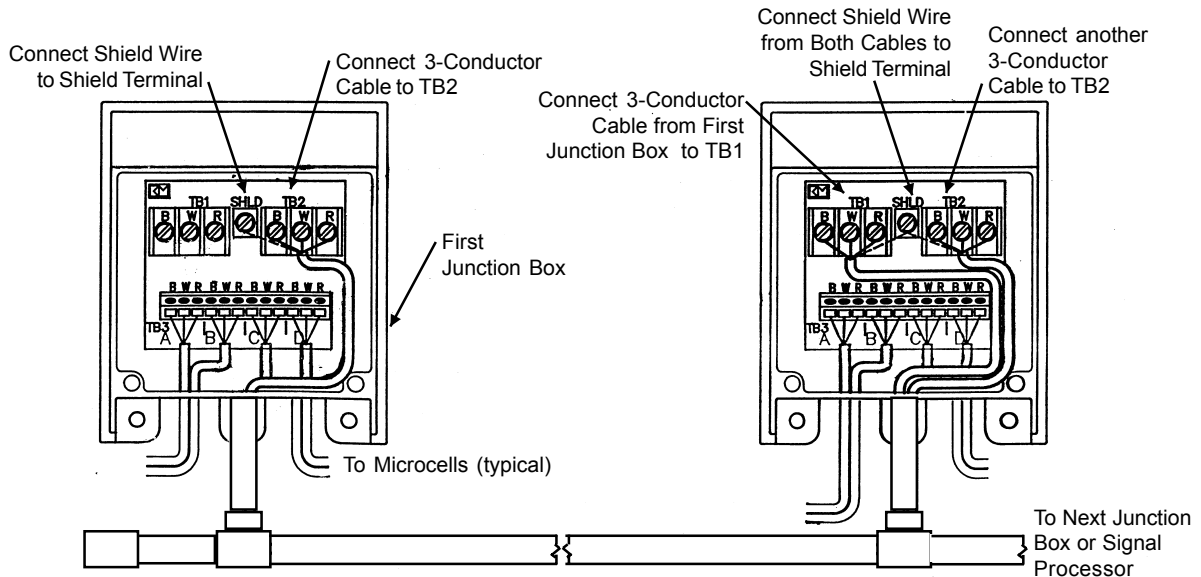
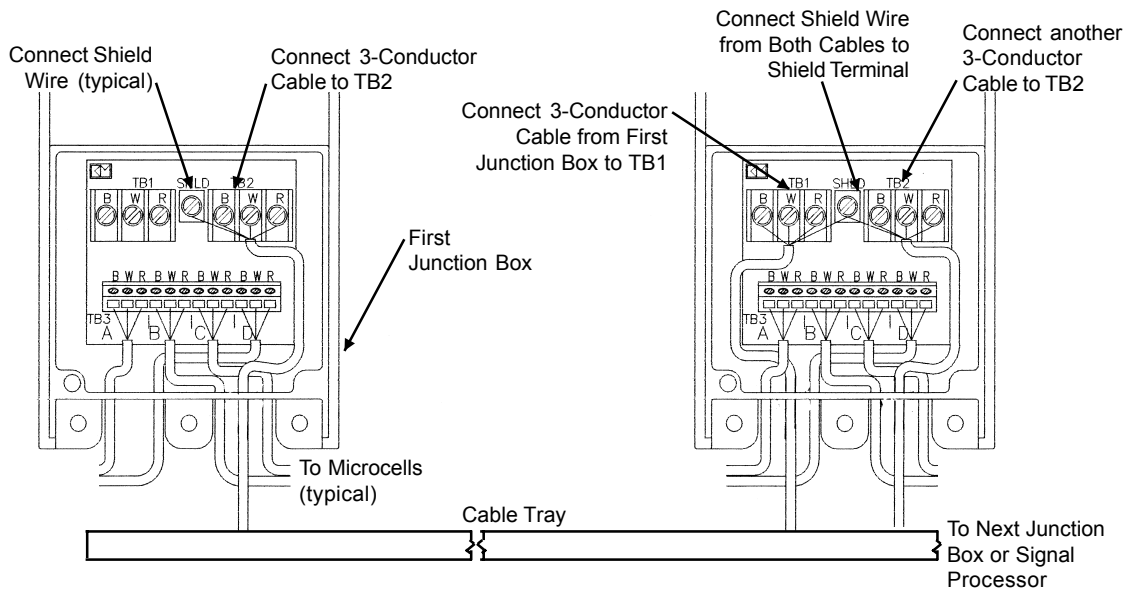

Figure 6-20. Wiring Junction Boxes Together — Conduited Installation
Figure 6-21. Wiring Junction Boxes Together — Non-Conduited Installation
2. See Figure 6-20 (conduited installation) or Figure 6-21 (non-conduited installation). Route the 3-conductor cable through the fitting into the junction box farthest from the signal processor. Connect wires from the cable to the TB2 terminal in the junction box: black wire to B terminal, white wire to W terminal, and red wire to R terminal. Connect the cable shield wire to the Shield terminal between TB1 and TB2.